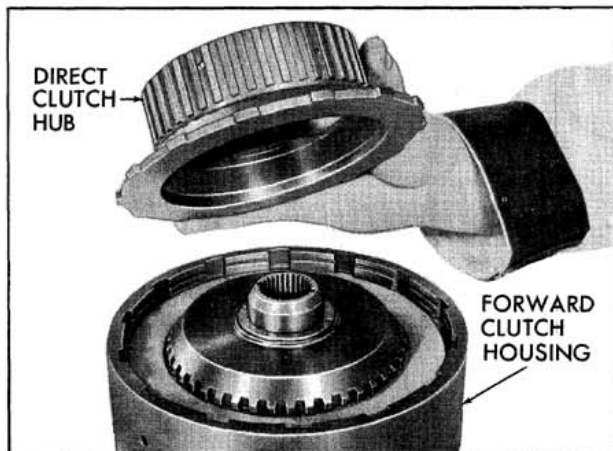

Fig. 6-126 Removing Direct Clutch Hub
2. Remove the direct clutch hub. (Fig. 6-126)